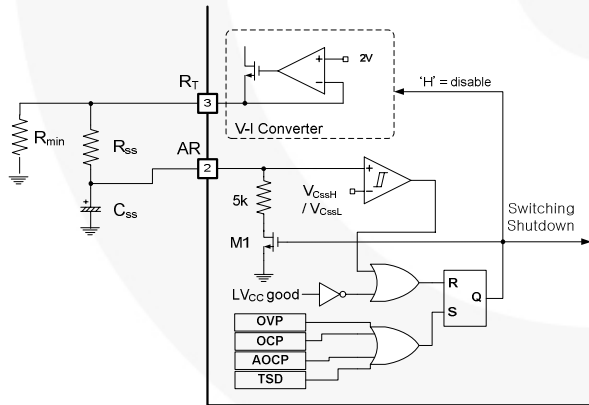
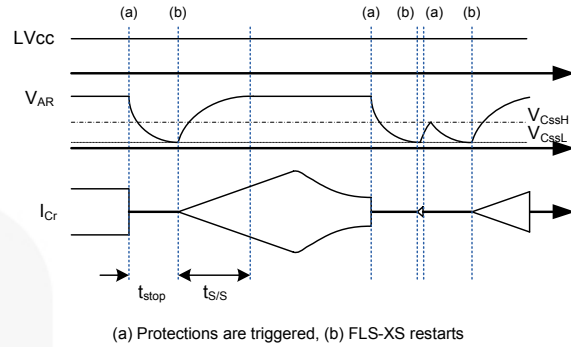

Figure 20. Internal Block of AR Pin
Figure 21. Self Auto-Restart Operation
4. Self Auto-Restart: The FLS-XS series can restart automatically even when any built-in protections are triggered with external supply voltage. As can be seen in Figure 20 and Figure 21, once a protection is triggered, the M1 switch turns on and the V-I converter is disabled. C_{SS} starts to discharge until $V_{C_{SS}}$ across C_{SS} drops to $V_{C_{SS}L}$. Then, all protections are reset, M1 turns off, and the V-I converter resumes. The FLS-XS starts switching again with soft-start. If the protections occur while $V_{C_{SS}}$ is under $V_{C_{SS}L}$ and $V_{C_{SS}H}$ level, the switching is terminated immediately, $V_{C_{SS}}$ continues to increase until reaching $V_{C_{SS}H}$, then C_{SS} is discharged by M1.